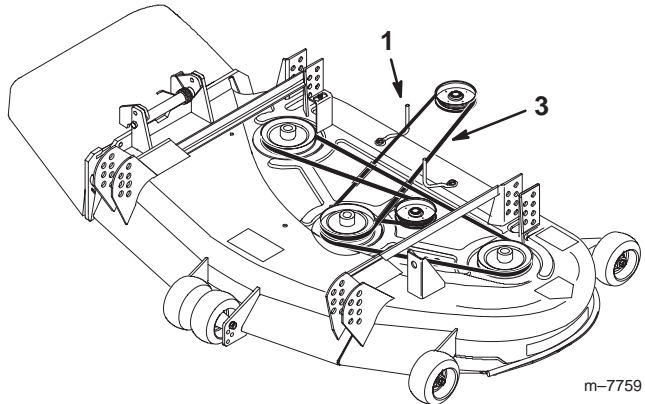

Figure 7
9. Check the position of the belt guides. The guides should be positioned about 1/8 inch (3 mm) away from the belt (Fig. 7). Adjust the belt guides as necessary.